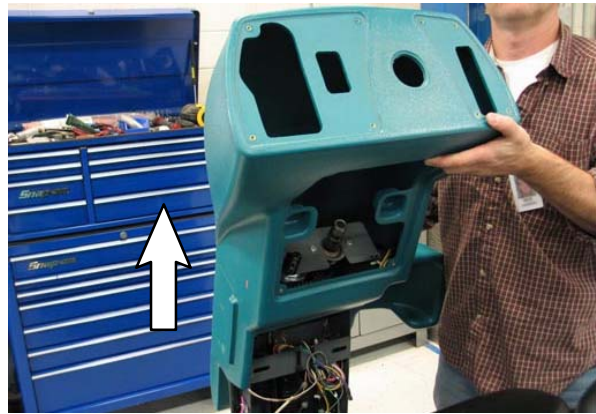

FIG. 14
14. Remove the shroud. (Fig. 14 / Fig.10)